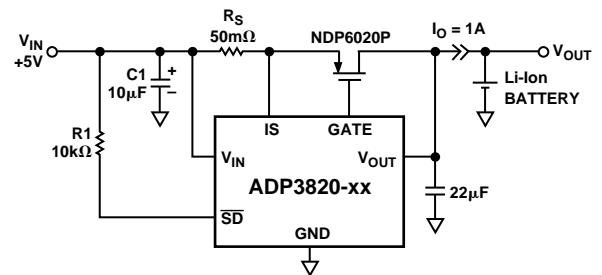
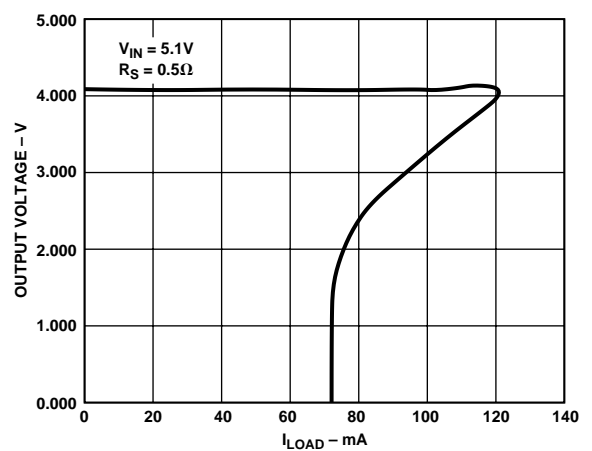

Figure 1. Li-Ion Charger Application Circuit
Figure 13. Current Limit Foldback*
*Reference Figure 1.
When fully charged, the circuit in Figure 1 works like a well known linear regulator, holding the output voltage within the specified accuracy as needed by single cell Li-Ion batteries. The output is sensed by the V_{OUT} pin. When charging a discharged battery, the circuit maintains a set charging current determined by the current sense resistor until the battery is fully charged, then reduces it to a trickle charge to keep the battery at the specified voltage. The voltage drop across the R_S current sense resistor is sensed by the IS input of the ADP3820. At minimum battery voltage or at shorted battery, the circuit reduces this current (foldback) to limit the dissipation of the FET (see Figure 13). Both the V_{IN} input and V_{OUT} sense pins of the IC need to be bypassed by a suitable bypass capacitor.
For the circuit shown in Figure 1, the required θ_{JA} thermal impedance can be calculated as follows: if the FET data sheet allows a max FET junction temperature of $T_{JMAX} = 150^\circ\text{C}$, then at 50°C ambient and at convection cooling, the maximum allowed ΔT junction temperature rise is thus, $T_{JMAX} - T_{AMAX} = 150^\circ\text{C} - 50^\circ\text{C} = 100^\circ\text{C}$.
The maximum current for a shorted or discharged battery is reduced from the set charge current by a multiplier factor shown in Figure 13 due to the foldback current limiting feature of the
This thermal impedance can be realized using the transistor shown in Figure 1 when surface mounted to a 40×40 mm double-sided PCB with many vias around the tab of the surface-mounted FET to the backplane of the PCB. Alternatively, a TO-220 packaged FET mounted to a heatsink could be used.
The power FET is protected during short circuit conditions with a foldback type of current limiting that significantly reduces the current. See Figure 13 for foldback current limit information.